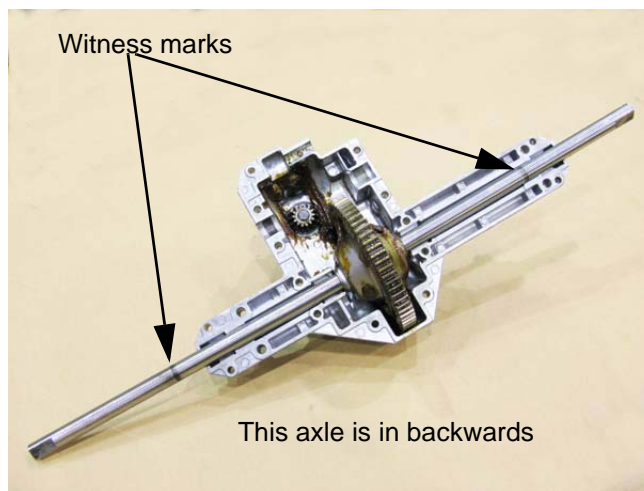

Figure 5.79
- 20a. Check notes, markings, or witness marks on the axle shafts to confirm the correct orientation. See Figure 5.79.